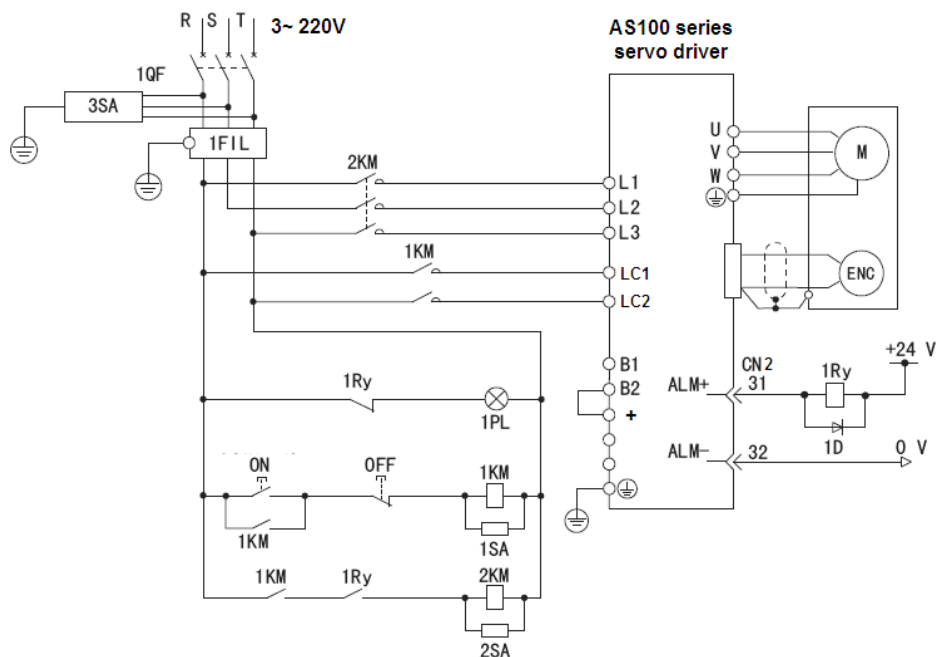

Fig. 4-1 The Power Wiring Diagram
- One emergency stop circuit must be installed to ensure the power can be immediately cut off when there is a failure (see Fig. 4-1).
Refer to Fig. 4-1 for power connection (three-phase 220V input), and connect the power in the following order: